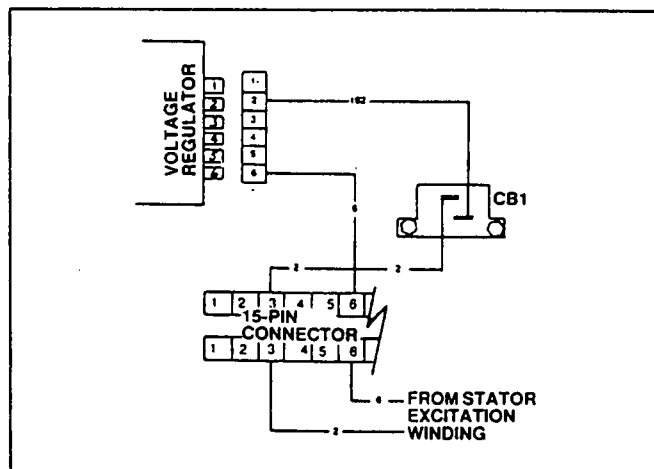

Figure 12. DPE Winding AC Output Leads
3. See Figure 12. Connect one VOM test probe to Pin 3 of the 15-pin connector (Wire No. 2 attaches to this pin).
See Figure 12. Carefully inspect Wires No. 2, 6 and 162 for damage, proper connections. Use a VOM to check the leads for an open or grounded condition.